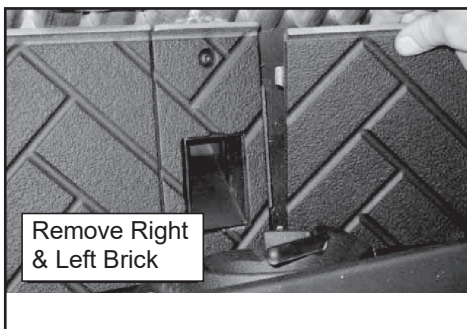

Figure 27.2
3. The top baffle must be removed before you can remove the right and left brick. Remove the right brick by holding top lip of brick and lifting up, then push outside edge back. Slide brick to the right until it is flush with the firebox. Rotate the inside edge of the brick forward and remove brick. Repeat for left brick (**Figure 27.2**).